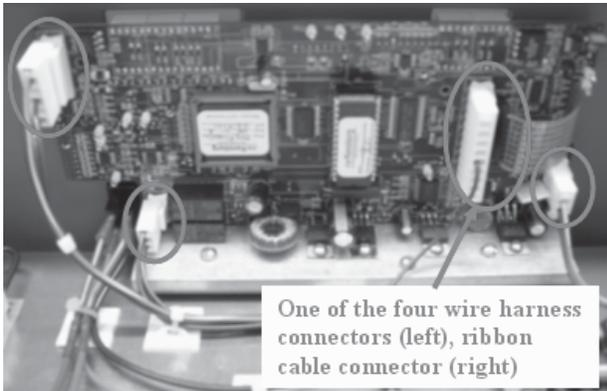

Figure 3: PC Board Noting Location of the Four (4) Wire Harness Connectors, and one (1) Ribbon Cable Connector
12. Use a flathead screwdriver to re-install the three (3) screws and washers into the aluminum plate at the base of the new PC board.
- The location of the connector on the new PC board is in the same place as the location of the connector on the old PC board (see Figure 3).
- The connector is a thin black piece of plastic with eight (8) gold metal prongs sticking up from it.
- The locations of each connector for each of the cable harnesses on the new PC board are in the same place as the location of the connectors on the old PC board (see Figure 3).
- The connectors are thin white plastic pieces with three (3) or more silver metal prongs sticking up from them.